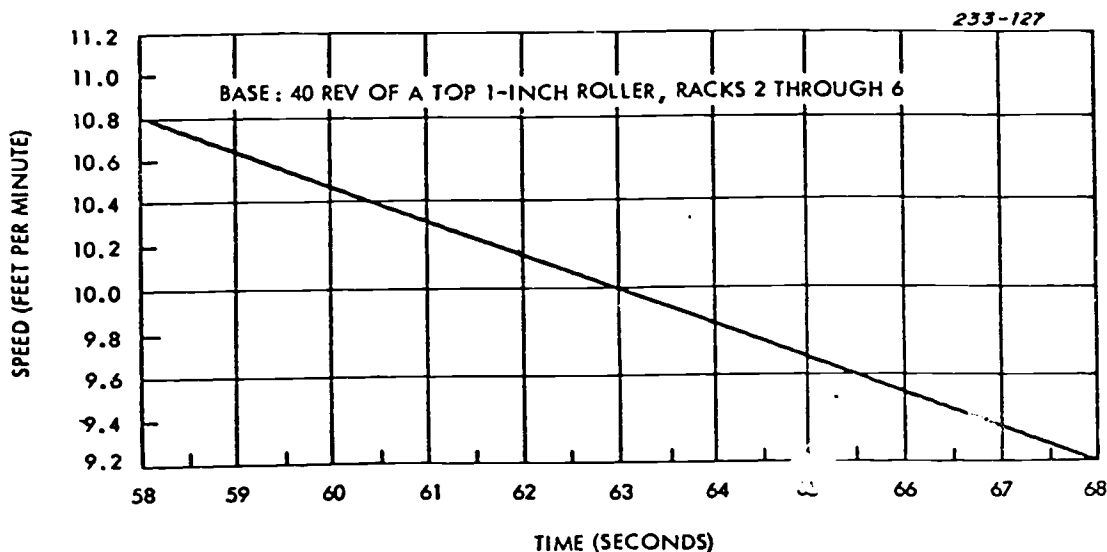

Figure 2-4. Speed calibration curve.
d. If 40 revolutions require less than 63 seconds, the true speed is more than 10 feet per minute; if more than 63 seconds is required, the true speed is less than 10 feet per minute. Refer to the speed calibration chart, figure 2-4.